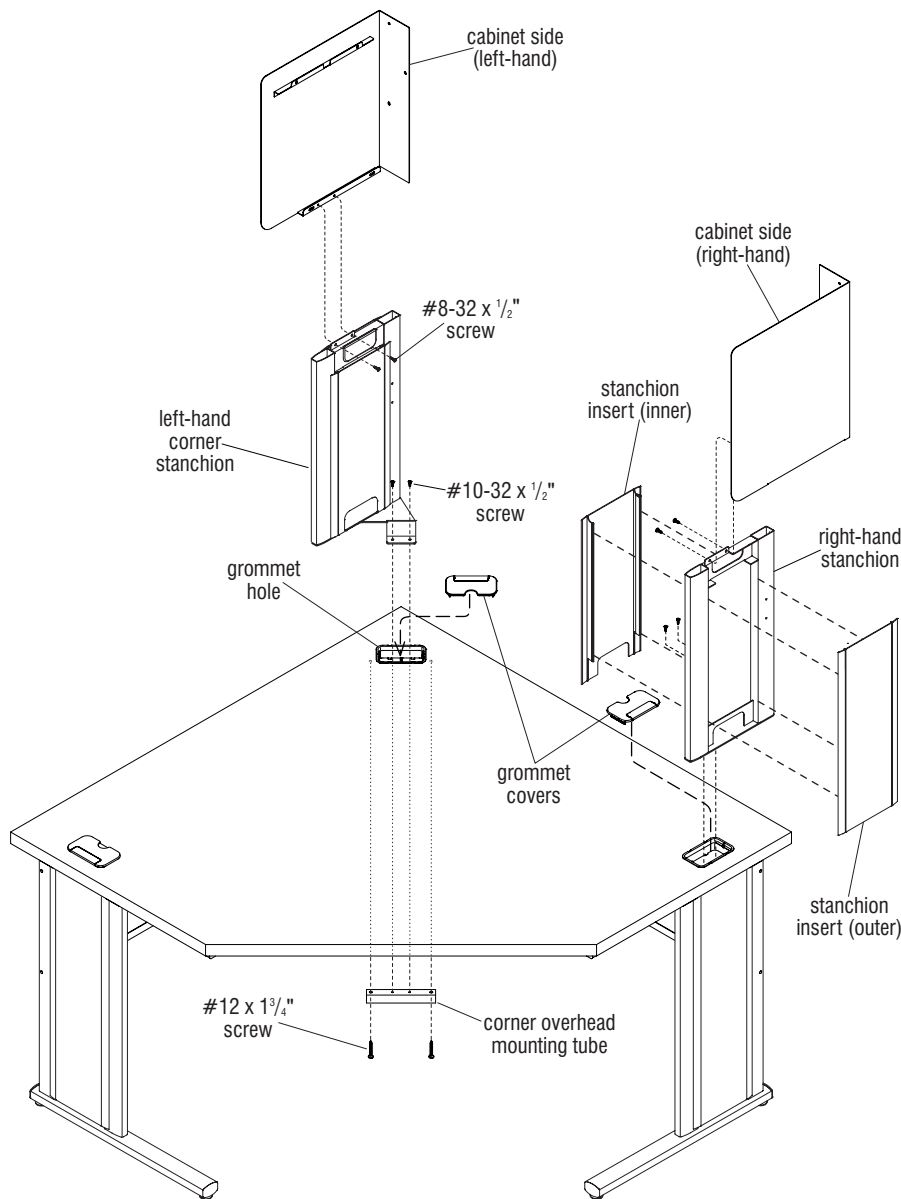

Figure 15
1. Begin by removing grommet covers from the back corner, and back side at the top of the corner desk where the overhead cabinet will install (Figure 15).
2. At the rear corner, from underneath the worksurface, position the corner overhead mounting tube as illustrated and align to pre-drilled holes. Install using two #12 x 1 3/4" screws (Figure 15).
3. Reference Figure 15 below to identify the corner stanchion (left-hand) and the right-hand stanchion, as well as the left- and right-hand cabinet sides (Figure 15).
4. Position the corner stanchion (left-hand) as illustrated such that the lower mounting bracket of the stanchion inserts into the grommet hole. Align the mounting holes in the bracket with the holes in the installed corner overhead mounting tube. Secure stanchion bracket to corner overhead mounting tube using two #10-32 x 1/2" screws (Figure 15).
5. Position the right-hand stanchion with the bracket through the grommet hole, aligning the mounting holes in the bracket with the mounting holes in the top of the right-hand leg. Secure bracket to leg using two #10-32 x 1/2" screws (Figure 15).
6. Orient the right- and left-hand cabinet sides as illustrated, then nest them into the tops of the stanchions and align the mounting holes. Secure from the inside using two #8-32 x 1/2" screws at each stanchion side (Figure 15).